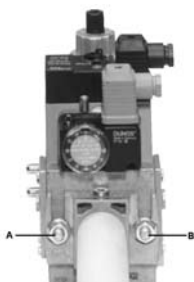
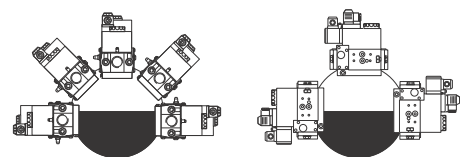

Fig. 7
Fig. 10
3. tighten screws A, B, C and D (Fig. 7 - Fig. 8), according to the mounting positions (Fig. 10);